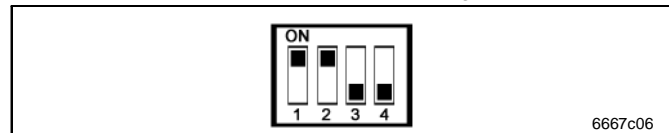

Fig. 29 DIP switch: Centro-Matic® systems – operating mode
- ➔ After that, switch SW4 back to OFF (Fig. 29).